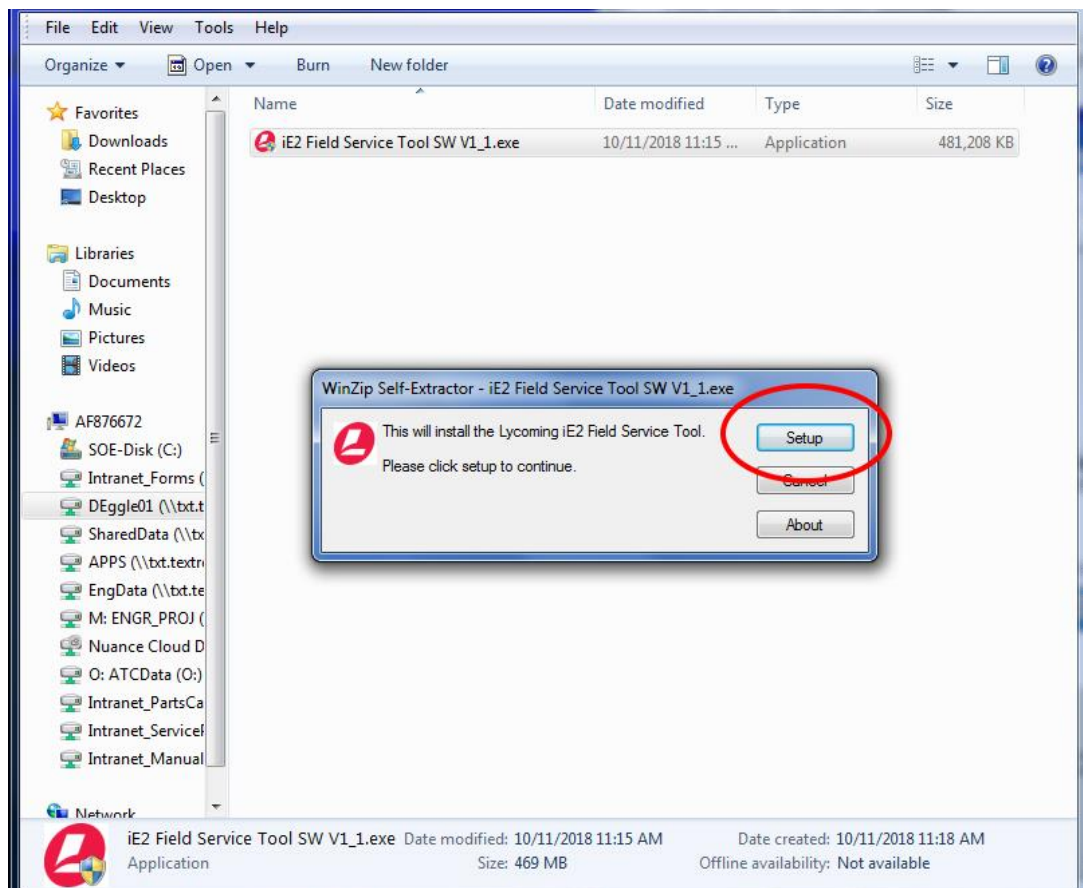

Figure 12
- Click the **Setup** button on the WinZip Self Extractor dialog box (Figure 12).